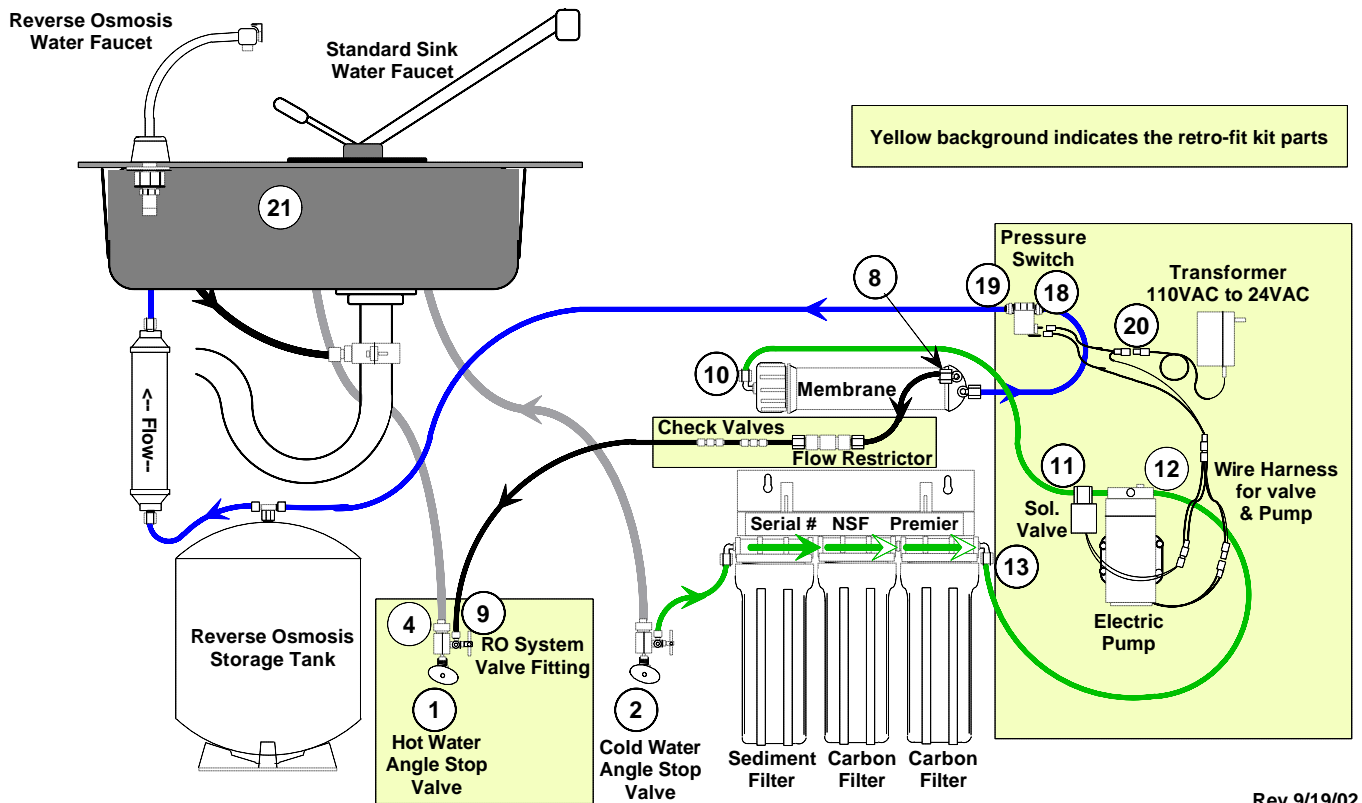

Figure 2 - Reverse Osmosis System with Zero Waste Kit Installed
- Step 3 Disconnect the standard hot water sink faucet supply line and install the included water supply valve to the hot water angle stop (#4 in Fig. 2). Then reconnect the standard sink faucet supply line to the included water supply valve. If the standard hot water sink faucet supply line does not disconnect from the hot water angle stop, the included hot water supply valve will have to be installed at the hot water sink faucet fitting (#21 Fig. 2).
- Step 6 Attach the short tube of the new flow restrictor assembly on the membrane housing at #8 in Fig. 2).
- Step 7 Attach the long tube from the flow restrictor assembly to the hot water supply valve (#9 in Fig. 2).
- Step 8 Remove the inlet water tube going into the membrane filter vessel (#10 in Fig. 2).
- Step 9 Attach the tube from the solenoid (#11 in Fig. 2) to membrane inlet (#10 in Fig. 2).
- Step 10 Remove the outlet tube coming from the last prefilter bowl's lid (#13 Fig. 2).
- Step 11 Attach the new tube that is attached to the pump inlet (#12 Fig. 2) to the outlet of the last prefilter bowl's lid (#13 in Fig. 2).
- Step 15 Insert the tube from step 13 by pushing it into the connector on the side of the pressure switch (#18 in Fig. 2). Insert the tube from step 14 into the connector on the other side (#19 in Fig. 2). The switch has a quick disconnect fittings which require the tube to be inserted and pushed firmly into the fitting. To disconnect, push on the plastic ring while pulling the tube.
- Step 16 All Electrical connections are color coded for your convenience. Connect the transformer to the wiring harnesses (#20 in Fig. 2).